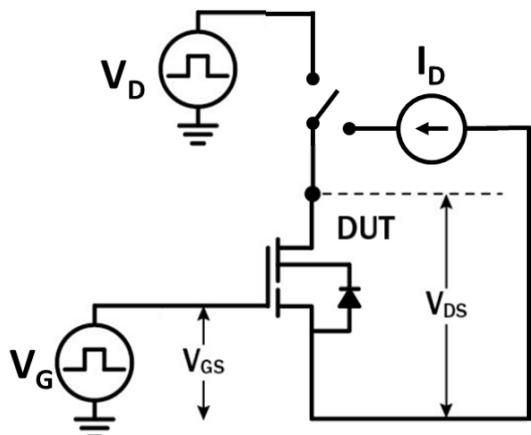

Figure 20. Dynamic $R_{DS(on)eff}$ Test Circuit
f. Dynamic $R_{DS(\text{on})}$, 100% tested; see Figures 20 and 21 for test circuit and conditions